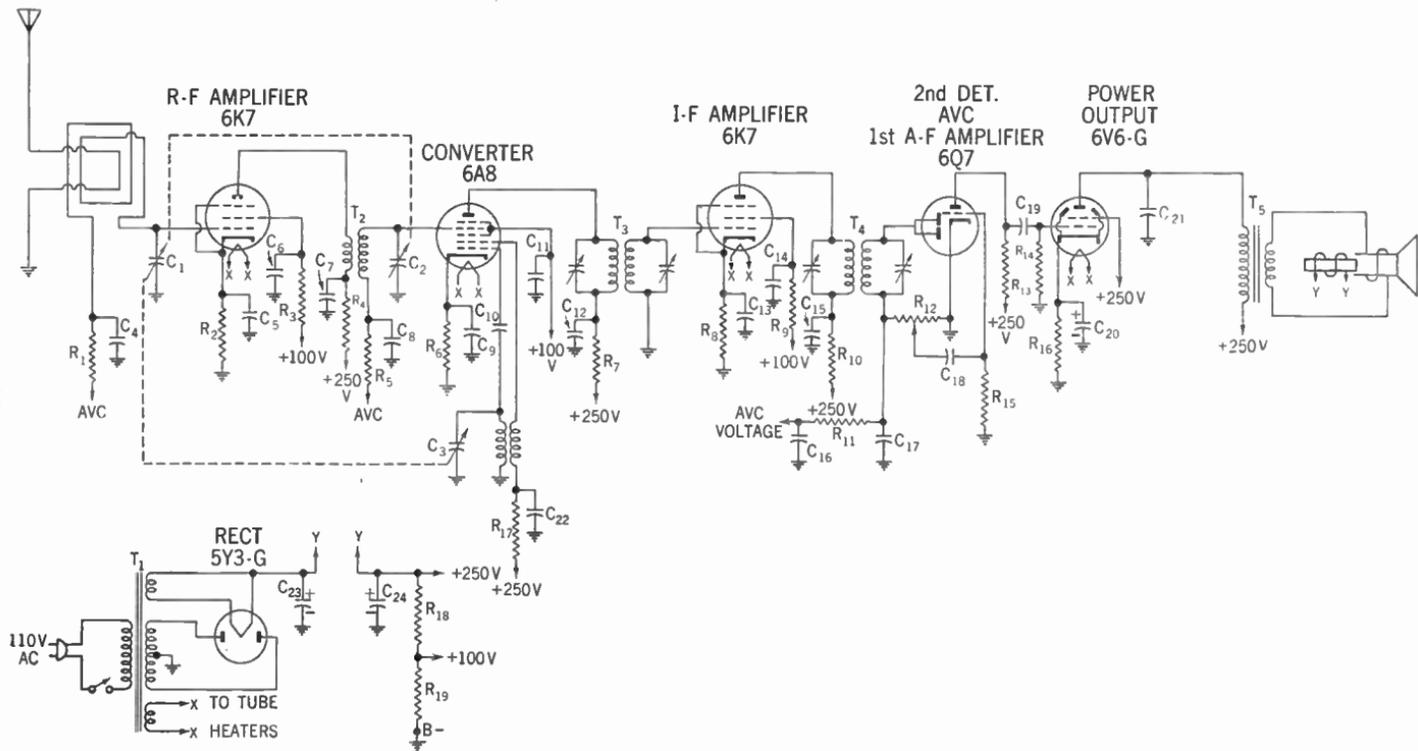

Figure 203. Circuit of a typical a-c superheterodyne receiver. On the opposite page is a list of values.
Figure 203 shows the circuit of the typical modern a-c superheterodyne receiver that contains many of the circuits we have discussed. The signal is fed in through a loop antenna to the control grid of the first 6K7 tube, which acts as a radio-frequency amplifier. The 6A8 tube is a standard pentagrid converter. The output from this stage is fed into the control grid of the second 6K7 tube, which is the intermediate-frequency amplifier. The 6Q7 tube is a multiunit type which functions as the second detector, as a generator of the AVC voltage, and as the first audio-frequency amplifier. The 6V6-G tube operates in the power-output stage, which feeds the audio-frequency signal to the loudspeaker through the output transformer  $T_5$ .
7. Examine the circuit of Figure 203, and explain the function of each component.